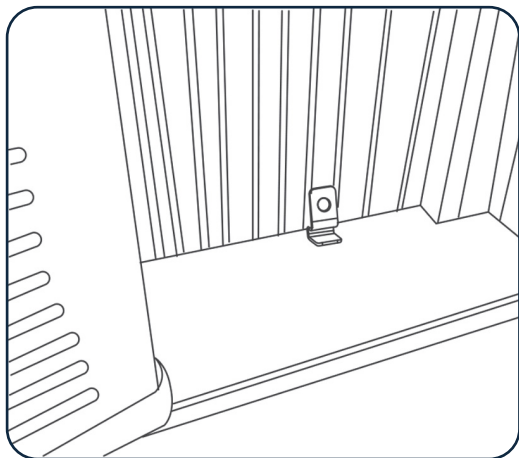
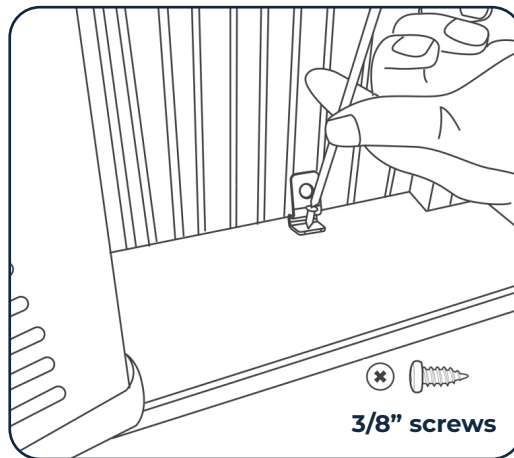

Fig.9
Fig.10
- Place the frame lock between the extended accordion panels and the window sill as shown in **Fig.9**. Screw a 3/4" locking screw through the frame lock and into the window sill (**Fig.10**).